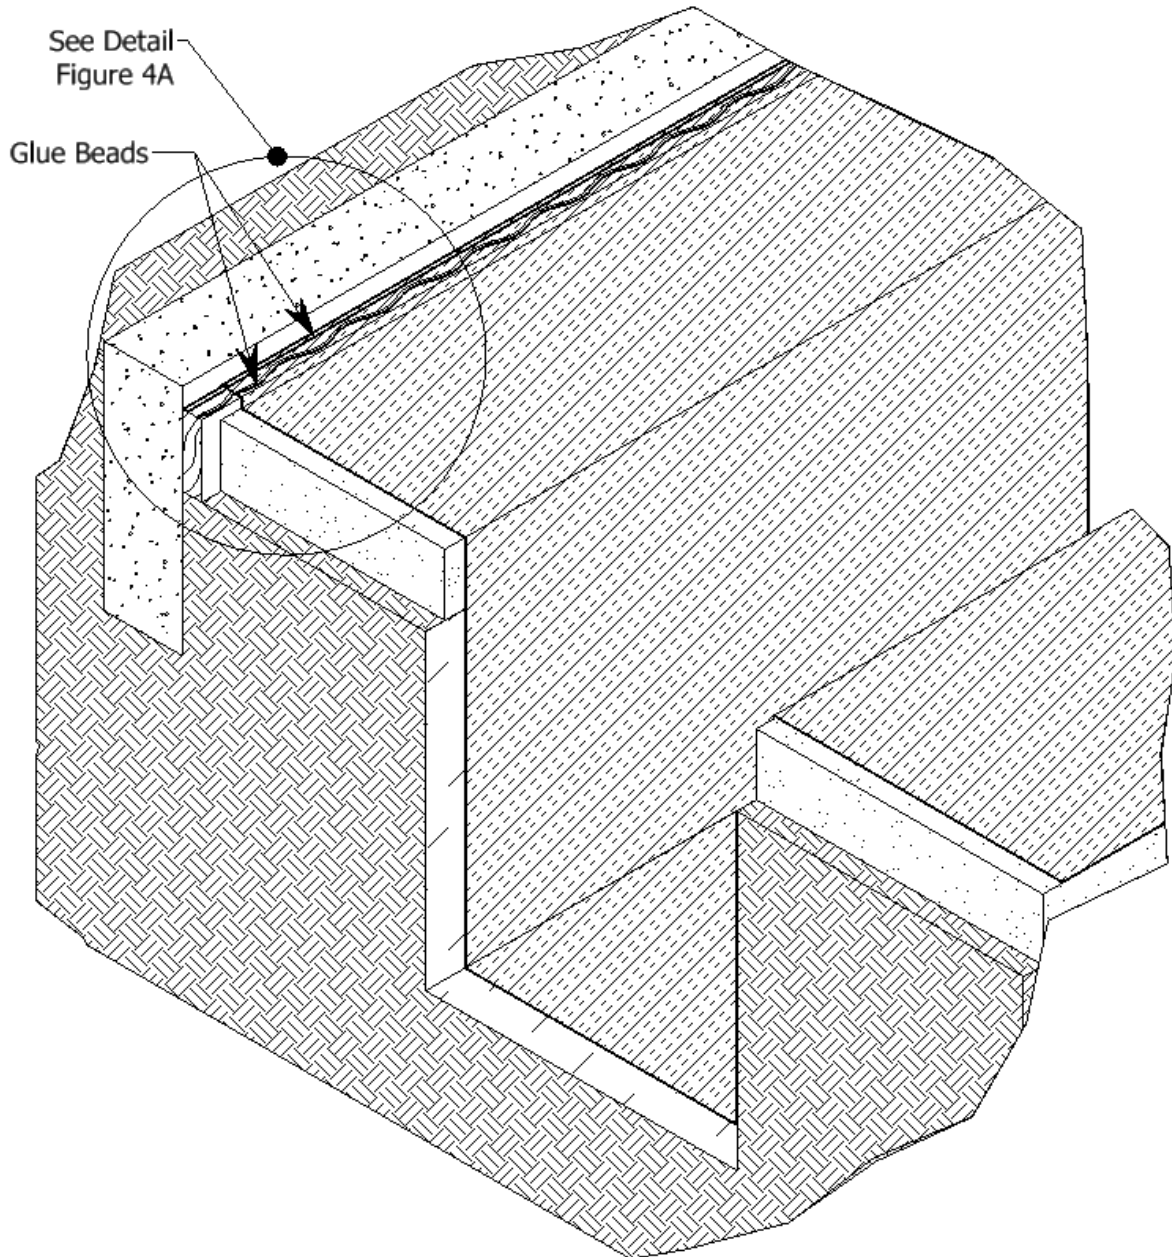

Figure 4
5. Install the impermeable trench liners into the trench excavations. Firmly attach one end of the trench liner to the field wood nailer using liner manufacturer's approved adhesive. Liner material will be installed atop geo-textile fabric and should lie smoothly against trench excavation sidewalls and bottom and be extended a minimum of three feet past each trench line (see Figures 4, 4a and 5). To complete the trench liner installation follow manufacturer's specifications for seaming to insure the trench liners remain impermeable for the life of the field. After all the impermeable trench liners are secured and installed proceed with installing the field liners.